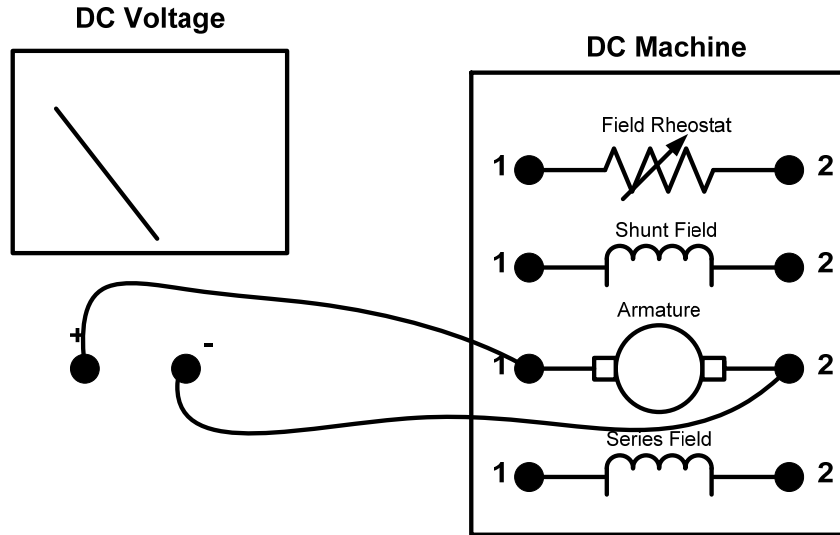

Figure 3
- Using the red and black wires, connect the DC machine’s armature to the Hampden analog DC voltmeter and set the scale for 75 volts (Figure 3).